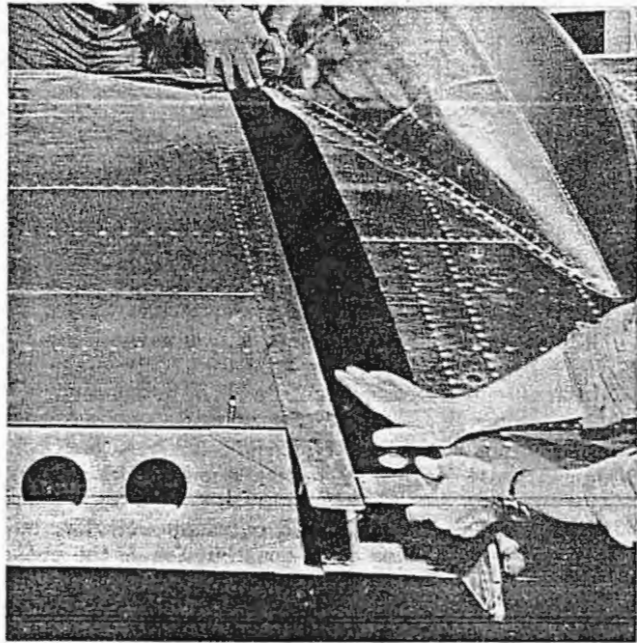

Figure 2-14. Guide Strip In Place
e. This pin will now totally support the root end of the wing, allowing the workman at the leading edge to guide the gap strip on the upper surface of the wing over the wing stub skin by inserting a strip of metal about 4 inches wide between the wing stub skin and gap strip (figure 2-14). The workman at the root end trailing edge will, at the same time, help take care of the top guide strip and bottom gap strip. The two workmen at the tip will remain there to raise it in position and the man in the nacelle will remain there to install the upper pin and see that nothing binds or is damaged while the wing is being raised into position.